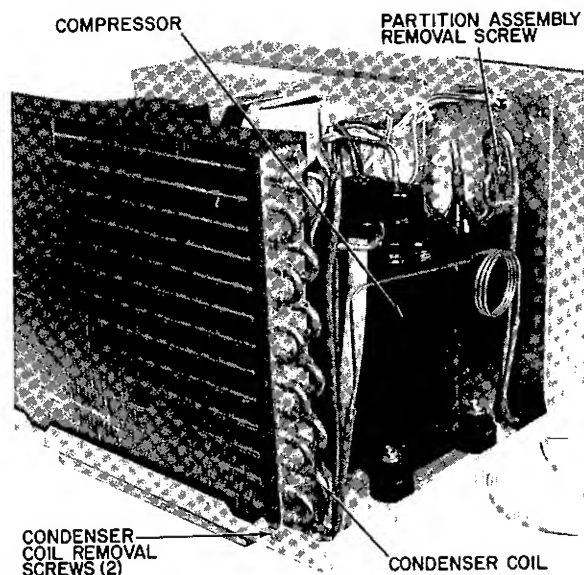

Fig. 16 — Condenser Coil/Partition Assembly Screws
- d Remove 2 screws in back of unit as shown in Fig 16. Carefully lift and pull condenser coil outward.
- b Remove one screw on compressor side (see Fig 16) which holds evaporator coil tube sheet to partition assembly.